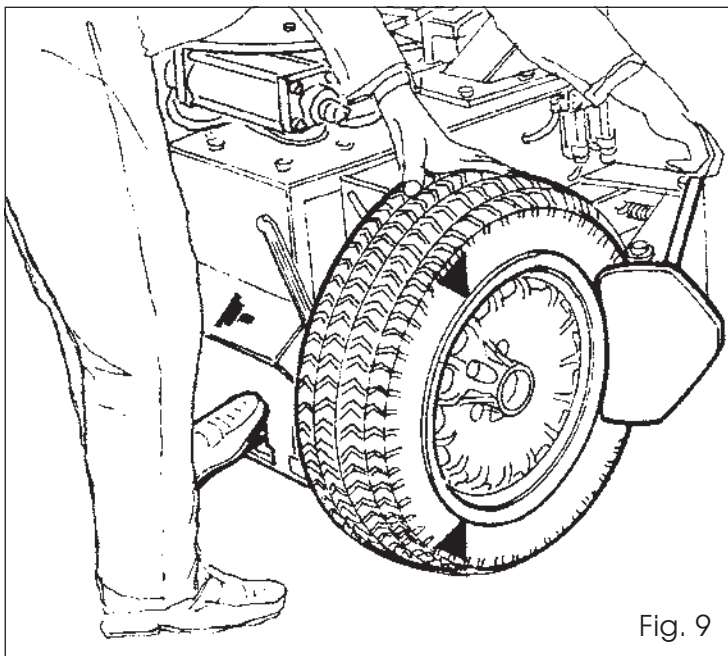

Fig. 9
- ☐ Position the wheel as shown in Figure 9 and bring the bead breaker shoe against the edge of the rim.
- ☐ Depress pedal (11) and break the bead.